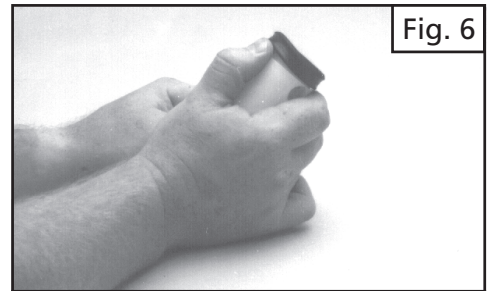

Fig. 6
6) To replace the Viton collar, push it off with the top of the piston with your thumb. The new one is simply pushed over the piston crown into the form fitted sides. (See Figure 6).